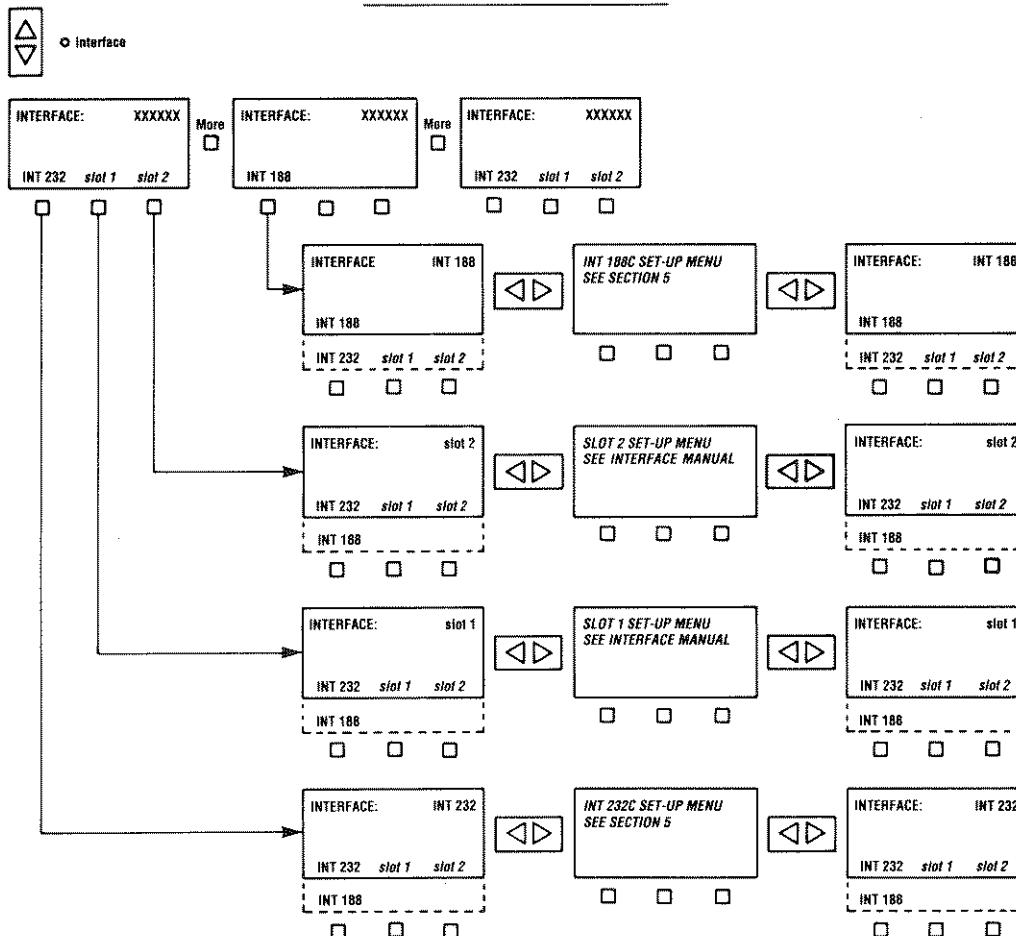

Figure 4-8
To select an interface, select the INTERFACE SETUP category with the SETUP CATEGORY switch (INTERFACED illuminates), then press the corresponding softkey, as shown in Figure 4-8. The selected interface label appears
in the display selection field. Press the SETUP SELECT switch to determine where to configure the interface: interface panel switches or INTERFACE menu. If the INTERFACE menu does not change, configure the interface using the interface panel switches. However, if the INTERFACE menu does change to a new display, then the interface can be configured from the front panel. Figure 4-8(A) shows how the INTERFACE menu appears when only the internal RS-232-C/V.24 and MIL-STD-188C Interfaces (labeled INT232 and INT188) are available. Figure 4-8(B) shows the INTERFACE menu when two installed interfaces are available. Figure 4-8(B) also shows how an installed interface is treated without a set-up menu. Specific interface configuration and operation information is discussed in Section 5, Data Interfaces.
The INT232 and INT188 Interfaces are always available from the INTERFACE menu. The INT232 Interface is listed first and the INT188 Interface is always listed last in the list of interfaces (see Figure 4-8(A)). When an interface module is installed in SLOT 1, the interface label is added to the menu selections (softkey labels) and the INT188 label moves to the right of the list. When a second interface module is installed in the optional interface slot, SLOT 2, the MORE key illuminates indicating that more than three interfaces are available (see Figure 4-8(B)). The interface listed after INT232 in the INTERFACE menu is installed in the standard interface slot, SLOT 1, and the third interface listed is installed in the optional interface slot, SLOT 2.